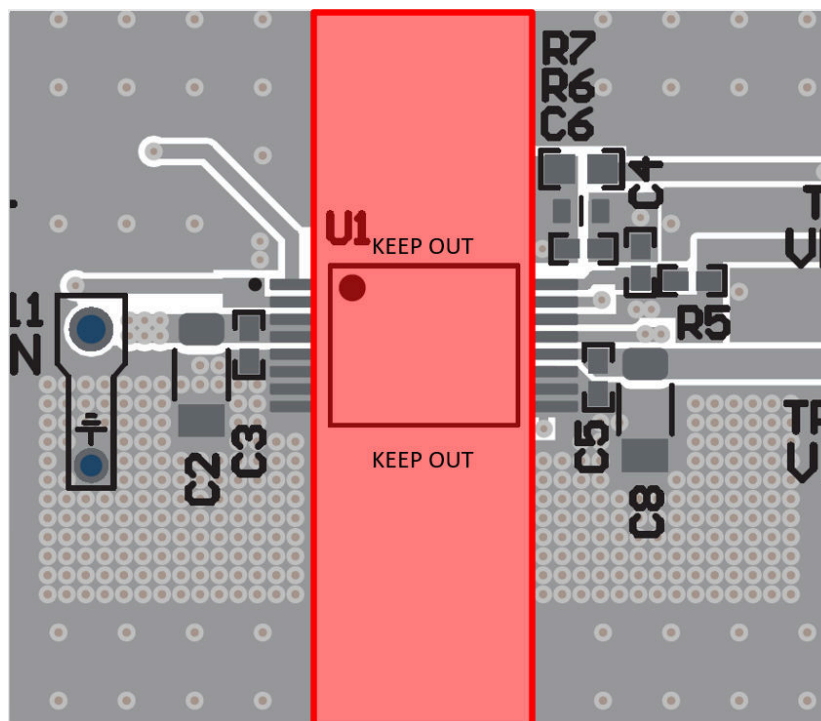

Figure 8-7. Layout Example of Keep Out Clearance
7. Creepage clearance: Avoid routing copper under the UCC34141-Q1 , to maintain the full creepage, clearance and voltage isolation ratings specified in the data sheet. Maintain the clearance width highlighted in red, throughout the entire defined isolation barrier. Keep-out clearance for basic isolation can be 50% less than the reinforced isolation requirement (8.2mm). Using 8.2mm provides additional margin. A layout example is shown in Figure 8-7.